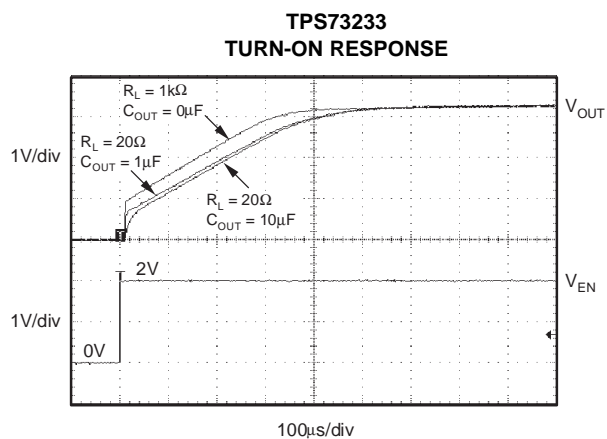

Figure 23.
The enable pin (EN) is active high and is compatible with standard TTL-CMOS levels. A V_{EN} below 0.5 V (max) turns the regulator off and drops the GND pin current to approximately 10 nA. When EN is used to shutdown the regulator, all charge is removed from the pass transistor gate, and the output ramps back up to a regulated V_{OUT} (see Figure 23).